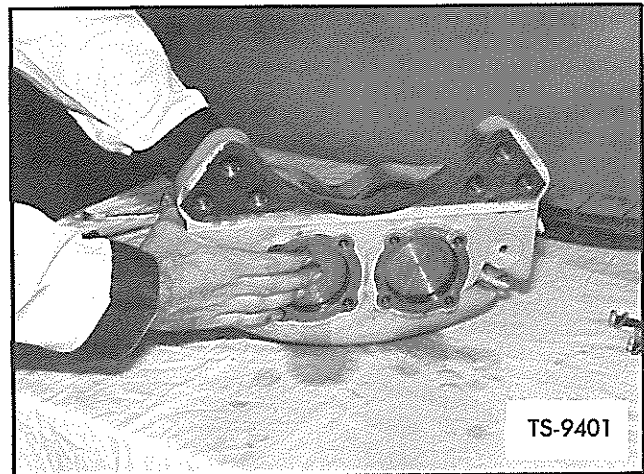

Fig. 18. Press Out Pistons
9. Remove pistons on open side of brake head by pressing pistons in toward center of brake head as shown in Figure 18. A clean cloth may be used inside brake head to catch piston as it is removed, protecting same from being nicked or scratched.